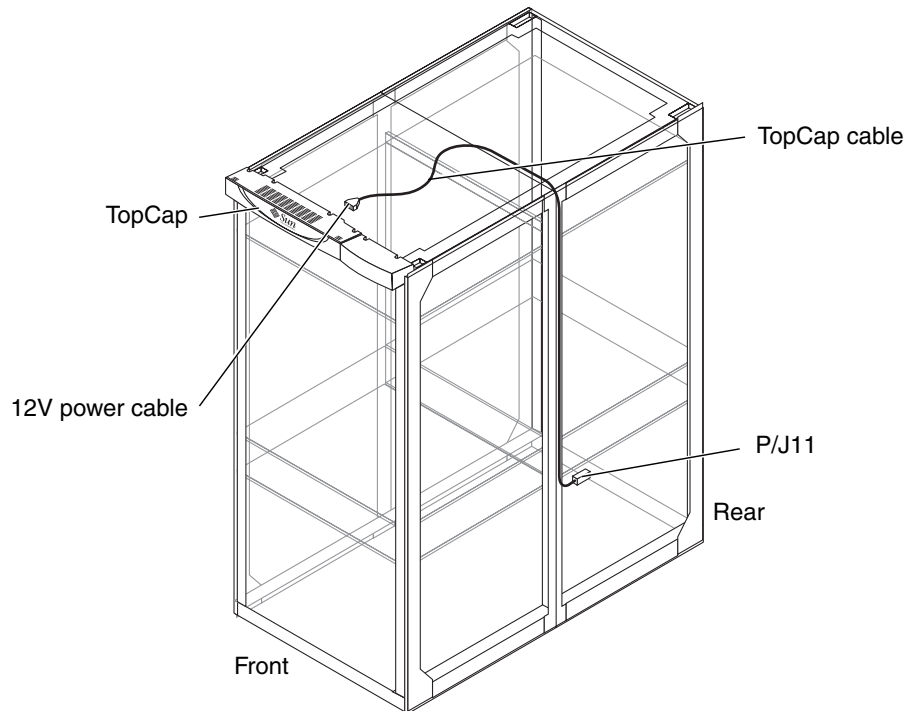

FIGURE 16-14 TopCap Cable
2. Remove the three (3) M4x12 panhead screws holding the TopCap to the chassis.
5. Remove the four (4) M4x12 panhead screws holding the four (4) cable clamps that secure the TopCap cable to the chassis.
6. At the rear of the system, remove the twenty-two (22) M4x30 panhead screws retaining the air plenum cover, and remove both the plenum cover and the honeycomb EMI filter panel.
7. Reach inside the air plenum and release the two (2) male jackscrews holding the internal cable connector to the internal chassis side panel.
8. To remove the right-angle connector, release the two (2) female jack screws using a 3/16-inch nut driver.
9. Remove the external right-angle connector (P/J11) from the chassis side panel (FIGURE 16-14).